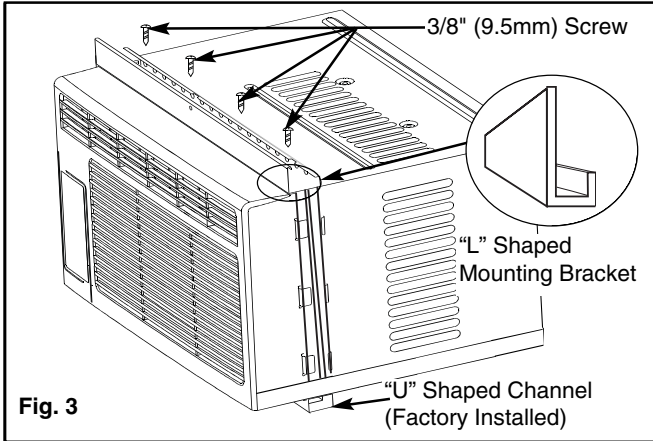

Fig. 3
- **"L" Shaped Top Channel:** Install the "L" shaped channel to the top of the cabinet as shown in Fig. 3 using four (4) 3/8"(9.5mm) screws.